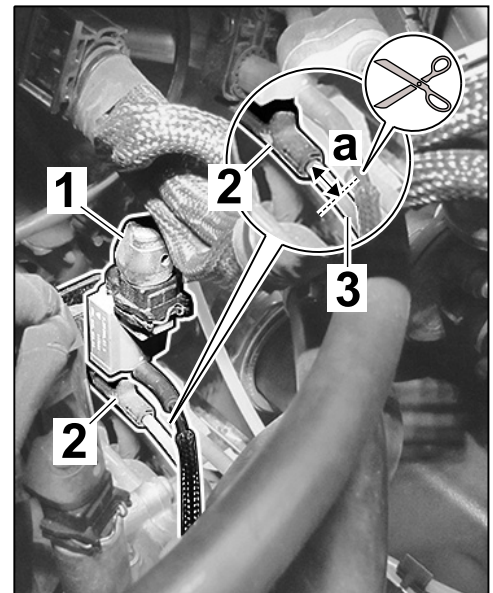

Figure 16
3.1.2 Cut standard vacuum line (Tekalan) ⇒ Figure 16-3- approx. 1 cm ahead of the T-piece ⇒ Figure 16 -2-.